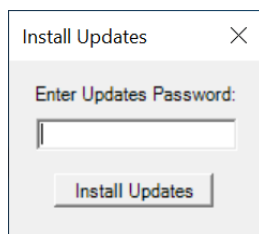

Figure 89: Install Updates Window
4. When the **Install Updates** pop-up window appears, enter the updates password obtained from Impulse Dynamics and then tap **Install Updates**. **See Figure 89.**